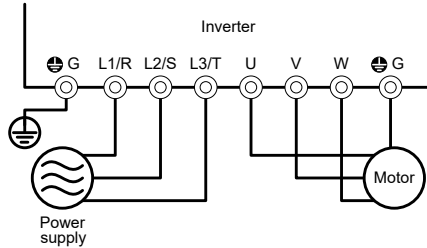

Figure 4.1 Connection of Main Circuit Terminals
(1) Check that the wiring is correct.
Especially check the wiring to the inverter input terminals L1/R, L2/S and L3/T and output terminals U, V, and W. Also check that the grounding wires are connected to the grounding terminals (G) correctly. See Figure 4.1.
(2) Check the control circuit terminals and main circuit terminals for short circuits or ground faults.
(3) Check for loose terminals, connectors and screws.
(4) Check that the motor is separated from mechanical equipment.
(5) Make sure that all switches of devices connected to the inverter are turned OFF. Powering on the inverter with any of those switches being ON may cause an unexpected motor operation.
(6) Check that safety measures are taken against runaway of the equipment, e.g., a defense to prevent people from access to the equipment.